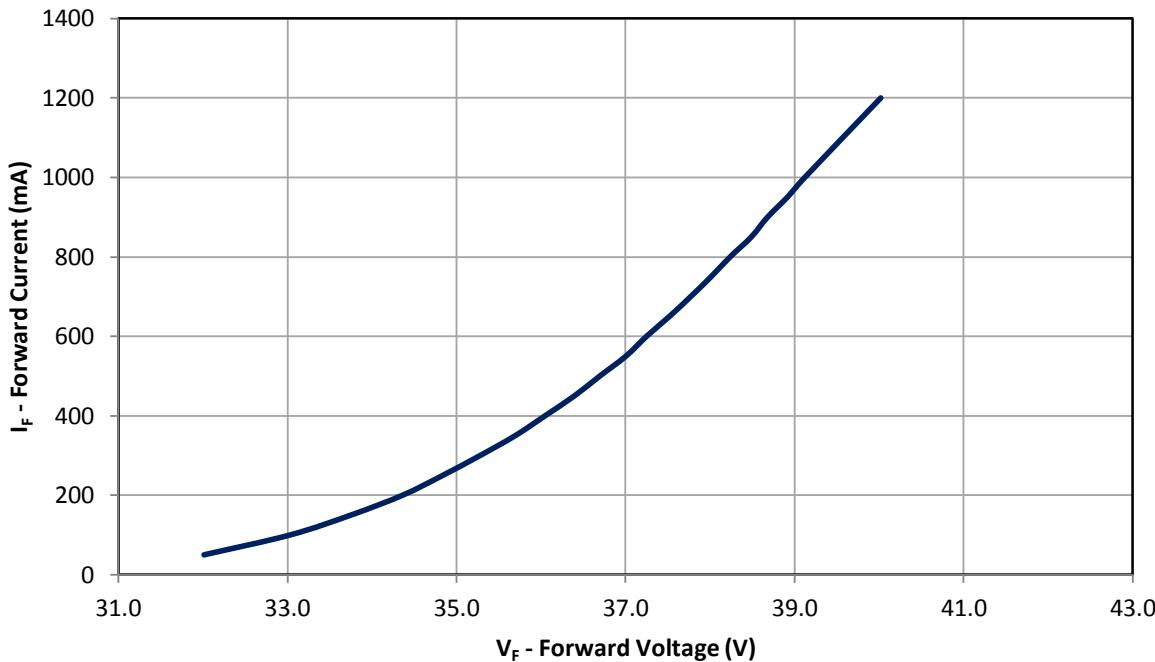

Figure 10: Typical forward current vs. forward voltage @ T_c = at 25°C.
1. Maximum DC forward current (per die) is determined by the overall thermal resistance and ambient temperature. Follow the curves in Figure 10 for current derating.